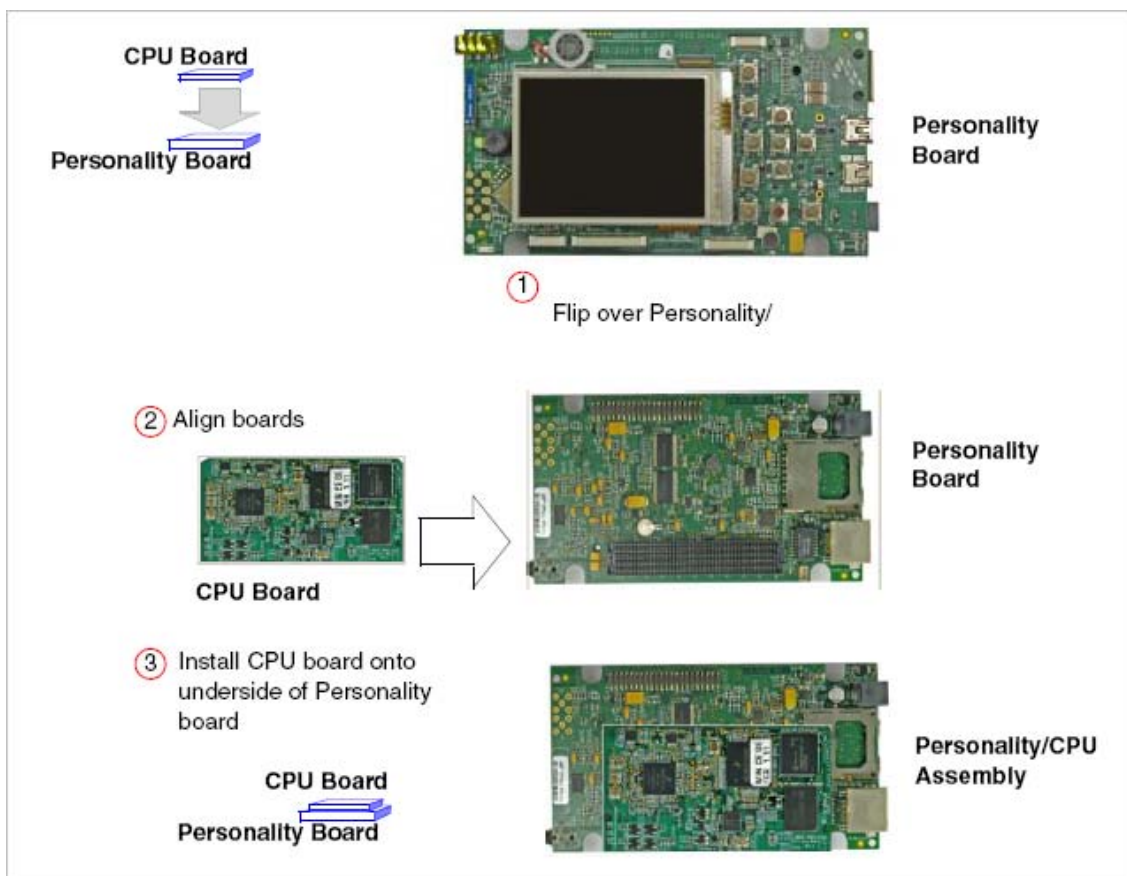

Figure 3-5 Install CPU Board onto Personality Board
3. Connect the regulated 5V power supply to the appropriate power adapter. Plug the power adapter into an electrical outlet and the 5V line connector into the J2 (5V POWER JACK) connector on the Debug board. See Figure 3-5.
This section explains how to make a demonstration platform using the Personality and CPU boards. To make a demonstration platform, the CPU board is directly connected to the Personality board using the 500-pin connector; the Debug board is not used (Figure 3-5).